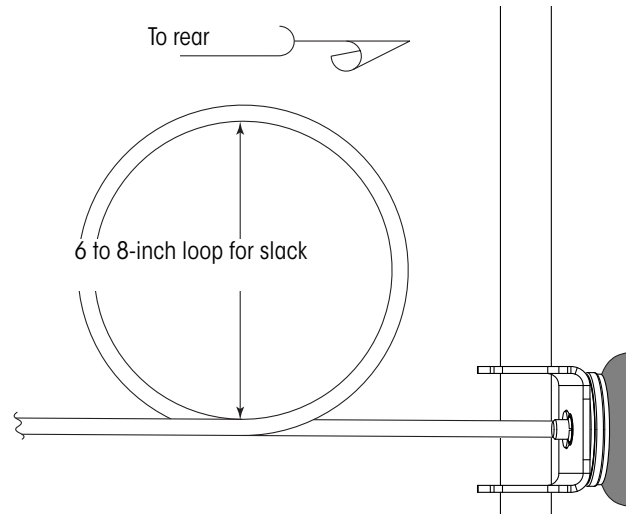

Figure 40: Creating a slack loop in the air line
3. Make a six to eight inch slack loop (Figure 40) in the air line near the front of the actuator.